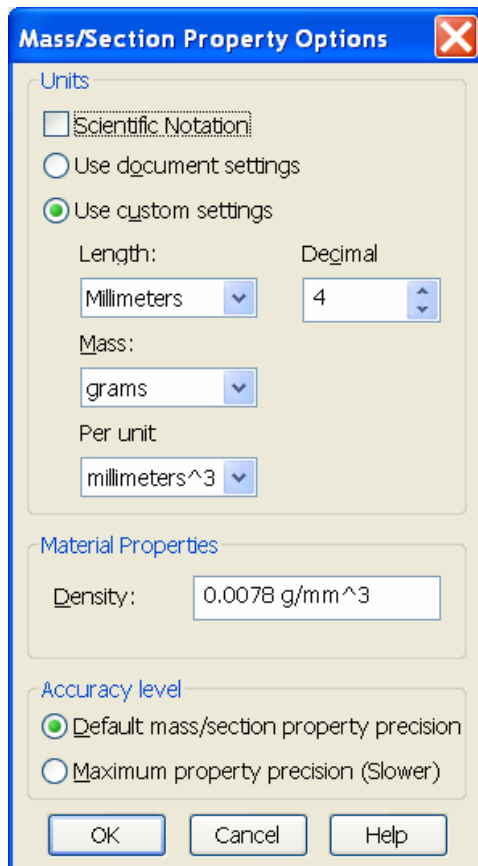
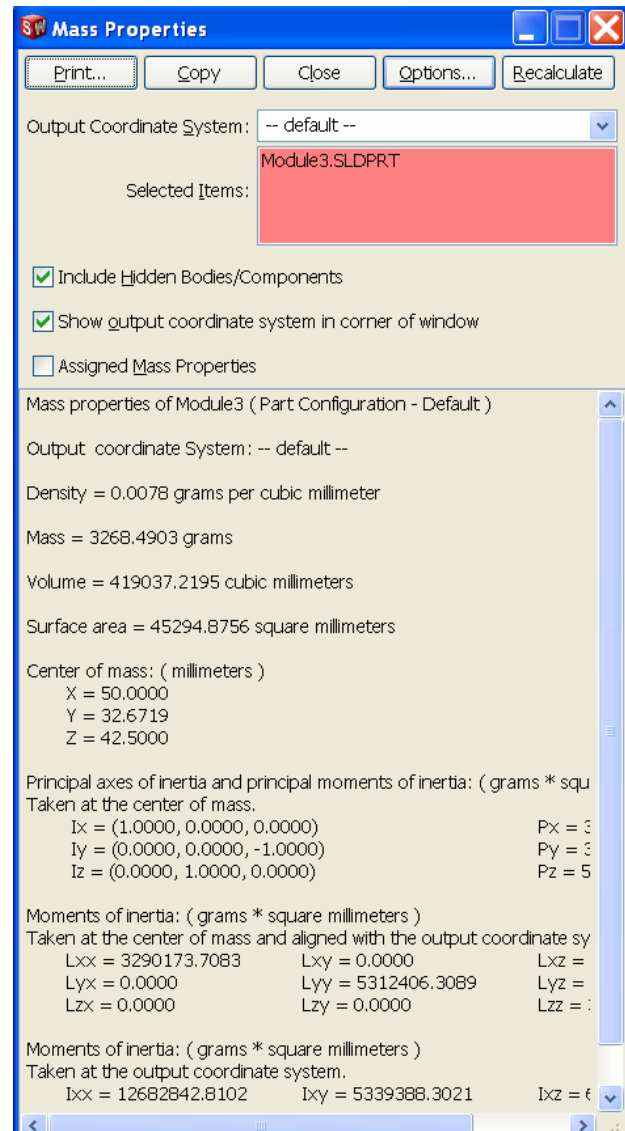

Figure 29 Mass/Section Property Options
Figure 30 Mass Properties
- 3) To display the correct value of the mass density, select the **Options** button. The **Mass/Section Property Options** dialog box appears as shown in Figure 29. Change the **Decimal Places** to 4, the mass density is displayed as **0.0078 g/mm³** in the Density text box as shown in Figure 30.